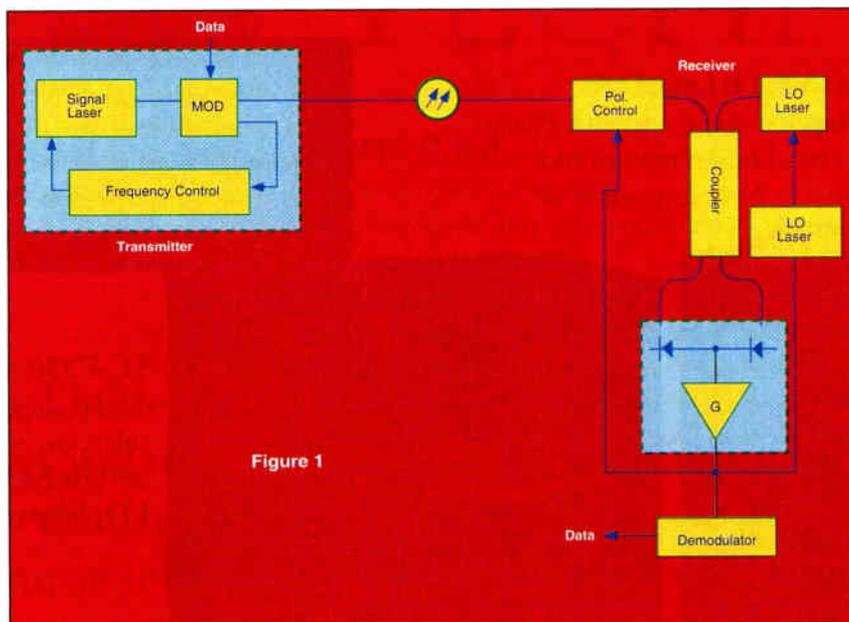

Figure 1
To take a closer look at the opportunities for coherent systems, let's first consider coherent transmission basics. A block diagram of a typical coherent link is shown in Figure 1. The underlying principles are identical to heterodyne radio, in which a modulated carrier is "mixed" with a local oscillator (LO). If the carrier and LO are, for example, at 10.0 GHz and 10.1 GHz, then this mixing, which is essentially a multiplication of the two signals in a mixer, results in a